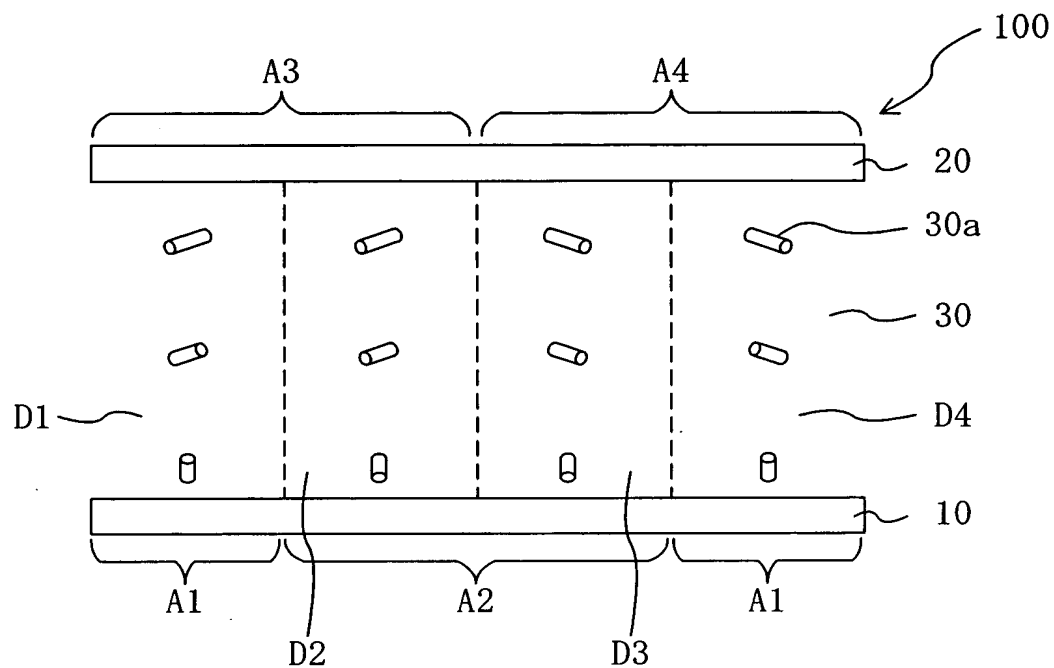

FIG. 1
Figure 1 is a line graph showing the relationship between Transmittance (%) on the y-axis and Voltage (V) on the x-axis. The y-axis ranges from 0 to 120 in increments of 20. The x-axis ranges from 0 to 100 in increments of 20. Three curves are plotted, representing different film thicknesses: 50  $\mu\text{m}$  (solid line), 40  $\mu\text{m}$  (solid line), and 30  $\mu\text{m}$  (dashed line). All curves show a sharp increase in transmittance as voltage increases, eventually leveling off near 100% transmittance. The 30  $\mu\text{m}$  curve is the leftmost, followed by the 40  $\mu\text{m}$  curve, and then the 50  $\mu\text{m}$  curve.